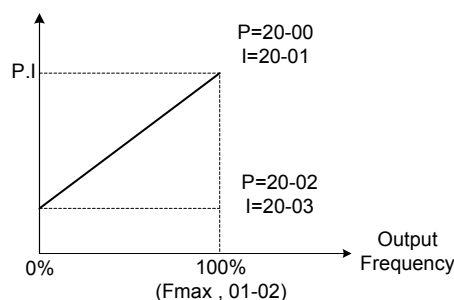

Figure 4.3.110 ASR gain setting (V/F+PG)
- (1) In V/F+PG mode, set the proportional (P) gain and integral (I) time at the minimum output frequency (20-02 and 20-03) and maximum output frequency (20-00 and 20-01) . Refer to the figure 4.3.110.